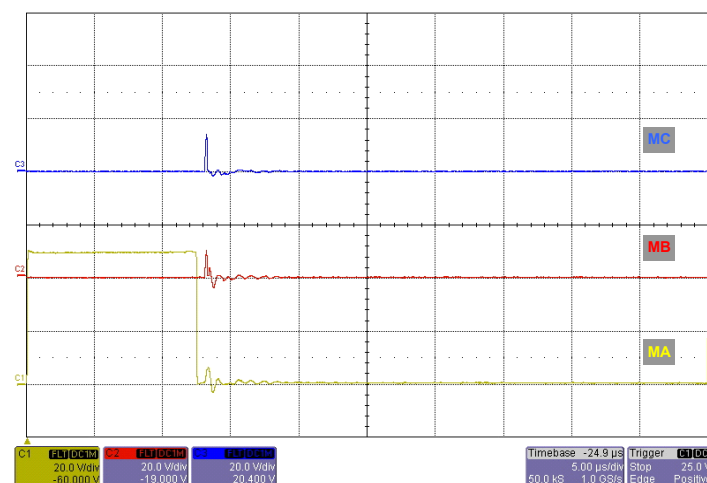

Figure 5. Waveforms on MA, MB, and MC with HA Grounded
3. Figure 5 illustrates incorrect waveforms. There should not be any switching on MB and MC while MA is low. At the very edge of MA falling, there may be a small amount of induced switching noise.